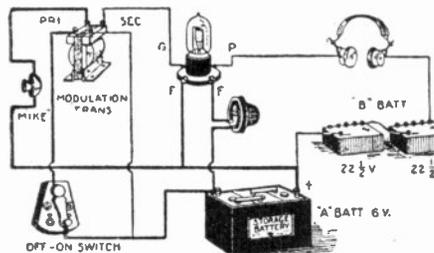

Fig. 236. Amplifying voice currents. This illustrates the principle involved in telephone "repeaters."
A. 3. Picture diagram numbered Fig. 236 shows how this is done. The microphone requires a high current at a very low voltage. The vacuum tube requires a high voltage but a very low current. The "modulation transformer" serves to adapt the microphone circuit to the requirements of the vacuum tube circuit.
Those who are hard of hearing will find the system explained in the diagram marked Fig. 236 a great improvement over a microphone used alone, in the customary manner. The ordinary microphone connection uses only a small battery, the receiver and the microphone. It is usual for this combination to be very noisy, particularly when the battery is new. This is due to an overloading of the microphone. This overloading is prevented by using the tube amplifier shown. The microphone is operated with much less battery current, eliminating the loud, rushing sound usually present. In addition, quality is very greatly improved and greater volume is obtainable.